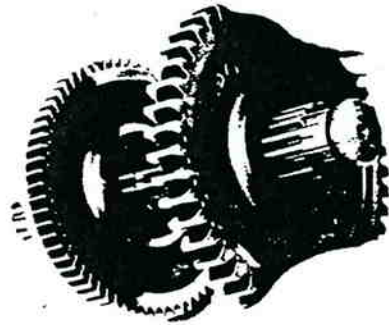

Figure 13-61. Removing 1st Speed Gear, Limit Washer and Spacer.
15. Pull the 1st speed gear from rear of mainshaft to remove limit washer, spacer, and gear (figure 13-61).